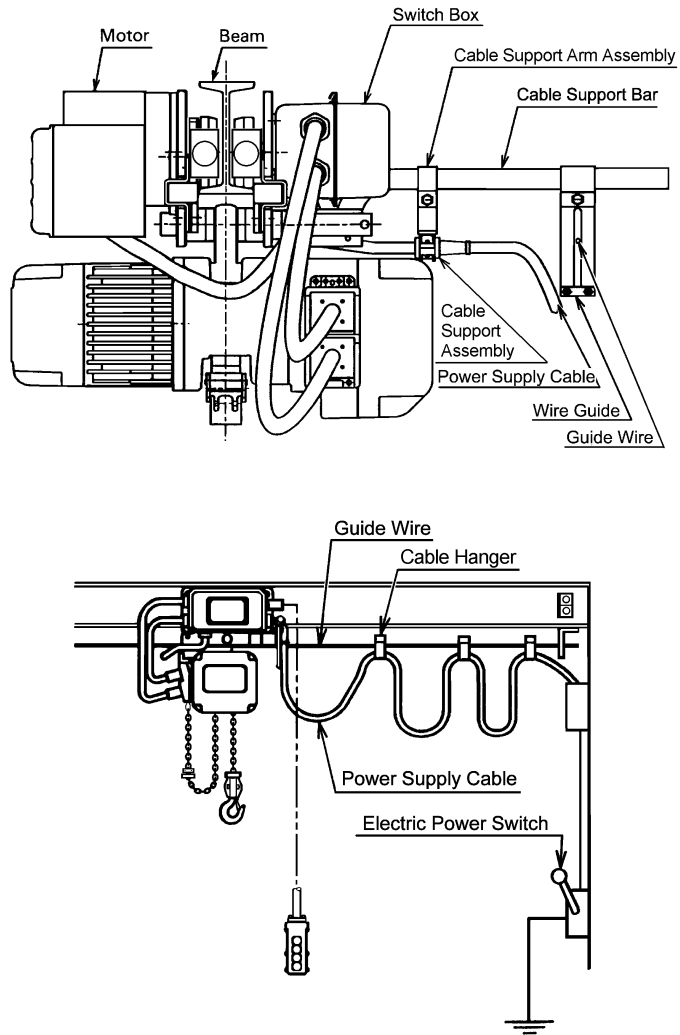

Figure 3-16 Power Supply Cable installation and Guide Wire location.
- 4) Install the Cable Support Assembly (pre-installed on the Power Supply Cable) onto the Cable Support Arm Assembly as shown in Figure 3-16.
- 1) Refer to Figure 3-16.